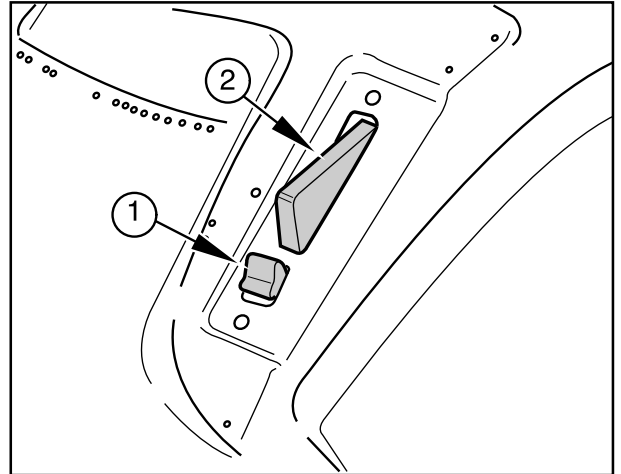

Fig.4-82B- (If installed - On request on some markets only)
Up/down buttons to automatically raise/lower the lift arms - If installed Fig.4-82B
To raise the implement, push the button (1) Fig. 4-82B back as indicated by the arrow to release the button (2). The lift arms will raise to the upper stop.
- Move the lever (2) fully back to the position control setting.
- To regulate the work position of the implement, progressively move the control lever (1) downwards or upwards until the desired position has been reached and then lock the check nut (3) under the lever itself to obtain the same work position on each run.
- At the end and the beginning of each run, use the automatic up/down buttons (if installed - Fig. 4-82B).
- Move the selector knob (2) fully forward to the draft control function.
- To dig the implement in quickly at the beginning of the furrow, move control lever (1) progressively forward. After this, lift it gradually to set to the desired work depth. The depth reached by the implement is proportional to the extent of lever travel.
- When the desired position has been reached, lock the lever with the check nut (3) to obtain the same work position on each run.
- Move control lever (1) back to raise the implement at the end of each run. Use the automatic up/down buttons, if installed.
- When shallow depths are required, the control lever travels only a very short length. To avoid that the implement digs in too slowly, it is better first to bring the lever fully forward at the beginning of each run over the check nut (3). After this, bring the lever progressively back to the desired position, once again over the check nut (3).